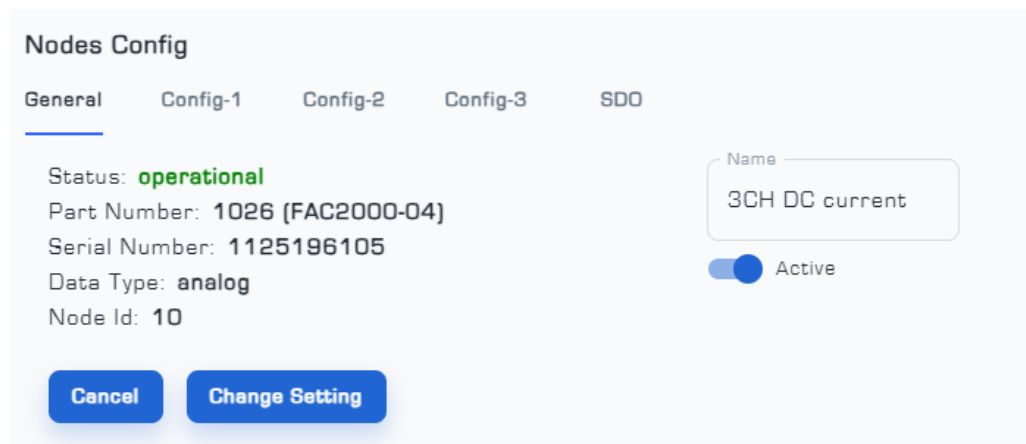

Figure 5: General Menu from Nodes Config Page
To apply the settings to the Node, click on it to display the Node settings page (Nodes Config) (Figure 5).
- The General menu includes information about the Node status, model, serial number, input data type, and Node number. You can also choose a custom name for the Node and even deactivate it if necessary (Figure 5).